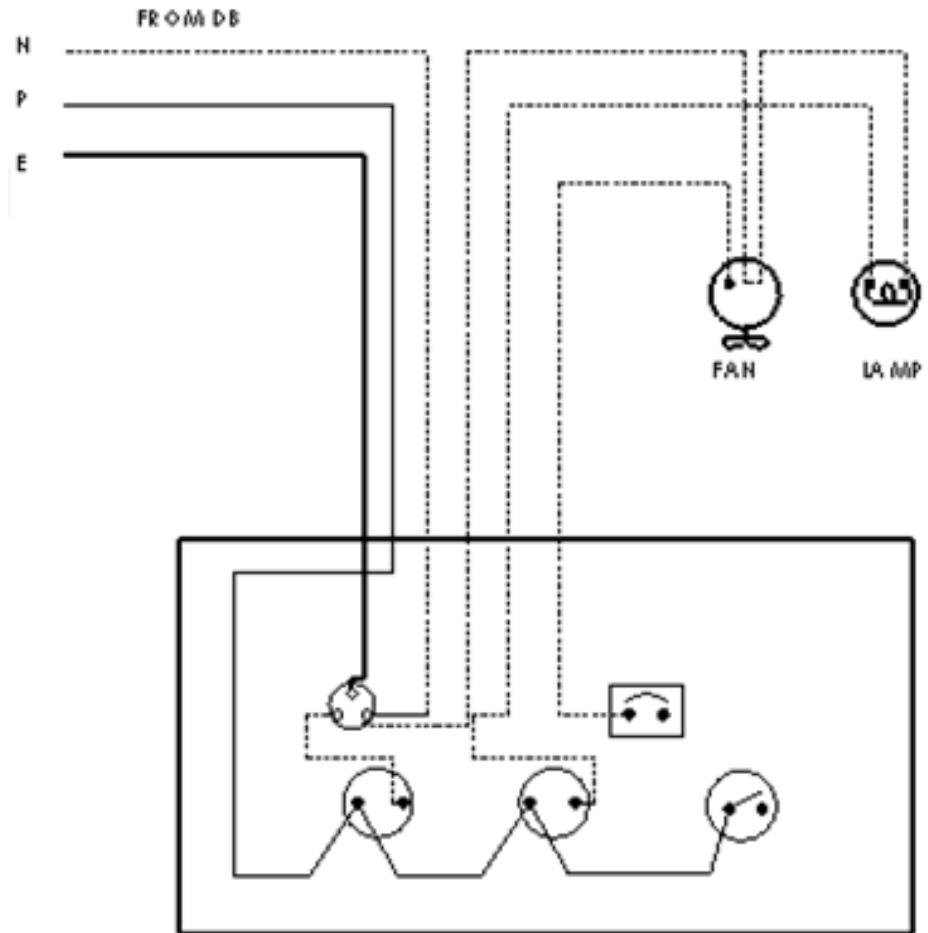

Figure 12.3: Single Phase wiring diagram
- 12.3 Draw the electrical circuit diagram of Single Phase wiring diagram as shown in Figure 12.3